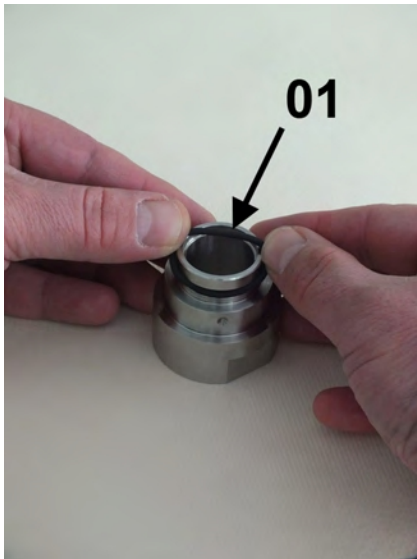
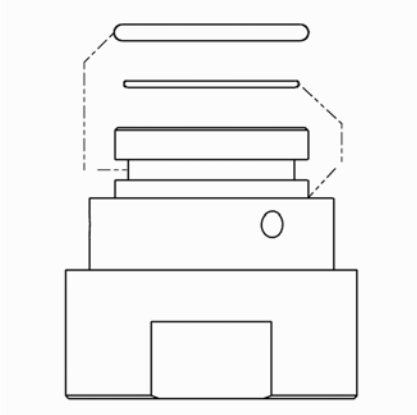

Fig. 39: O-ring (seal)
Fig. 41: Position of O-rings
1. ► Carefully install the O-ring (seal) onto the process connection (Fig. 39/01), so that it rests in the upper O-ring notch of the process connection (Fig. 41/01). When doing so, be careful not to overstretch the O-ring.
2. ► Carefully install the O-ring (Glass buffer) onto the process connection (Fig. 40/01), so that it is properly seated on the lower portion of the process connection (Fig. 41/02). When doing so, be careful not to overstretch the O-ring.